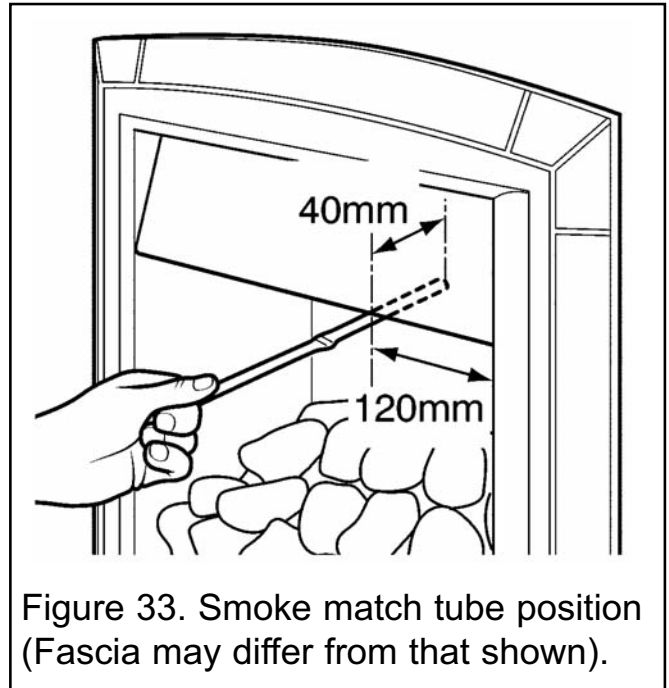

Figure 33. Smoke match tube position (Fascia may differ from that shown).
4. The smoke match should be placed horizontally into the hotbox at the right hand side (See figure 33).